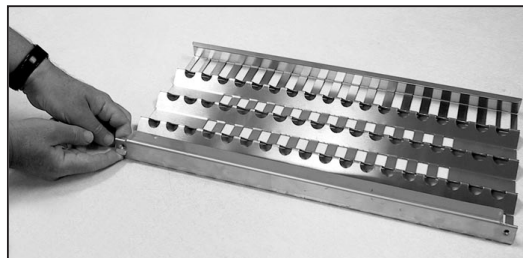

FIG. 13
2. Unlock radiant end cap by pushing it up with two fingers (Fig. 13).
- a) **Unlock radiant end cap by pushing it up with two fingers (Fig. 13) or pliers may be used.**